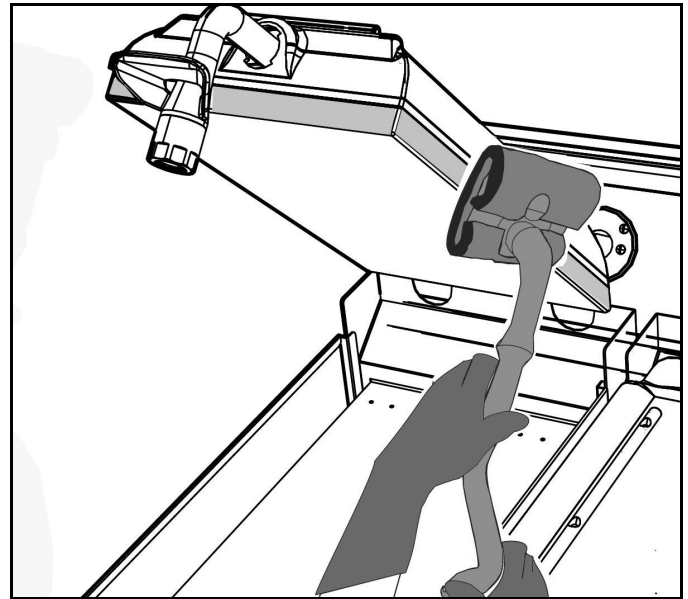

Figure 6-9
8. Using Hi-Temp Cleaner and the blue handled angle tool, apply the cleaner on the bottom and back of the platen and grill surface. Allow the cleaner to have contact for a few minutes. Then use the angled tool to scrub the edges and back of the platen surface. See Figure 6-9